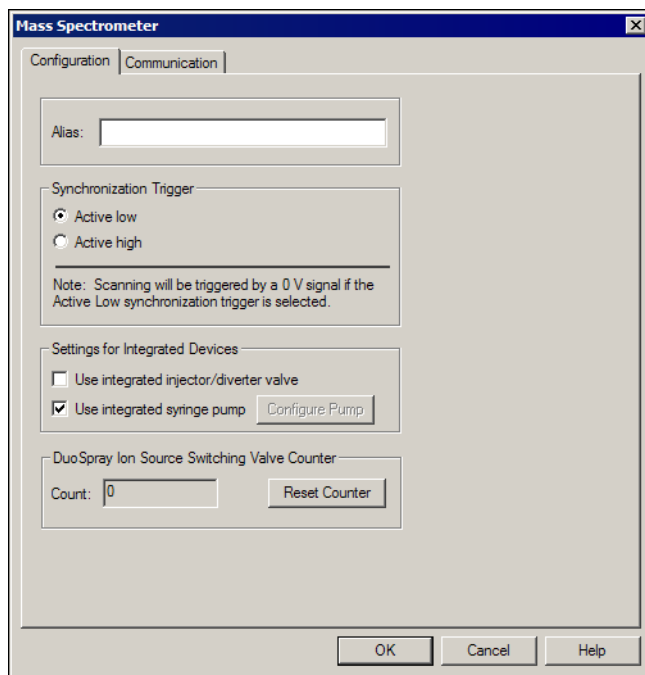

Figure 1-3 Configuration tab
3. On the Configuration tab (Figure 1-3 Configuration tab on page 7), select **Use integrated syringe pump** and then click **OK**.